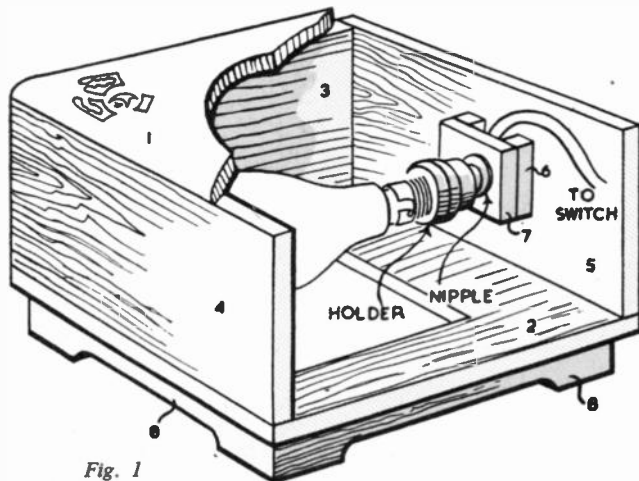

Fig. 1
Before assembling the 'box', pieces 6 and 7 should be glued and pinned to piece 5 and the nipple of the bulb holder screwed to piece 7 as in Fig. 1. Now the sides (3) can be glued and pinned between pieces 4 and 5 and the base (piece 2) added. Dismantle the bulb holder and make the necessary flex connections. It will be noticed that one wire goes to the
If there are a number to cook for and large dixies required, it is a good idea to sink the fire in a narrow trench and set the utensils across as shown, (Fig. 1), strips of iron being used if possible to give firmness. The trench, too, is useful if the weather is very windy.